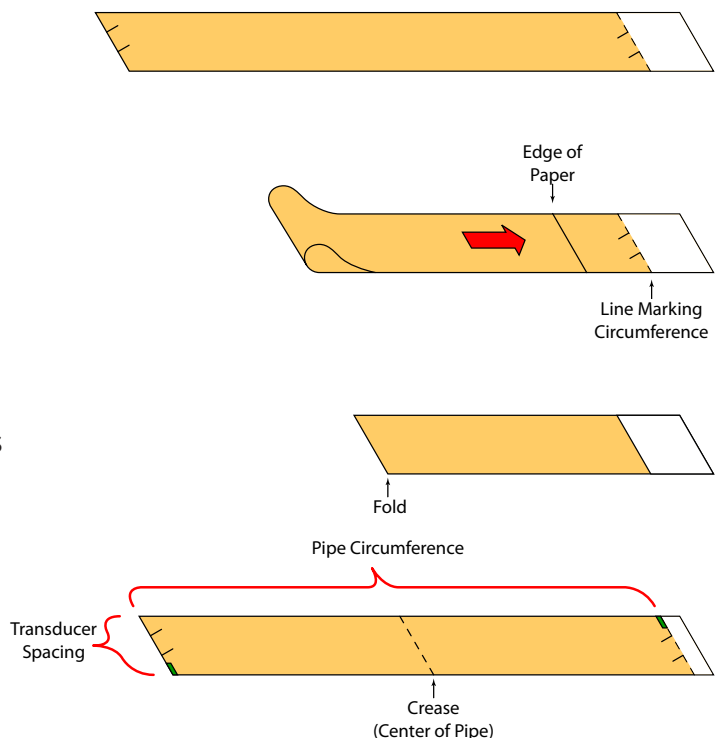

FIGURE 5.9 - BISECTING THE PIPE CIRCUMFERENCE
- 2) Mark the intersection of the two ends of the paper to indicate the circumference. Remove the template and spread it out on a flat surface. Fold the template in half, bisecting the circumference. See **Figure 5.9**.
- 5) Place the first transducer in between the mounting rails near the zero point on the scale. Slide the clamp over the transducer. Adjust the clamp/transducer such that the notch in the clamp aligns with zero on the scale. See **Figure 5.9**.